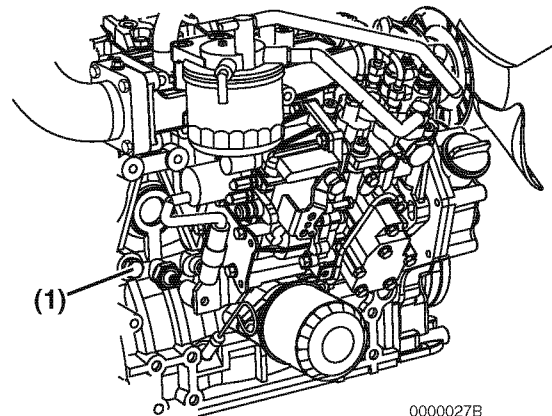

Figure 5-17
- On models not equipped with an oil cooler, remove the coolant drain plug (**Figure 5-17, (1)**) from the engine block.